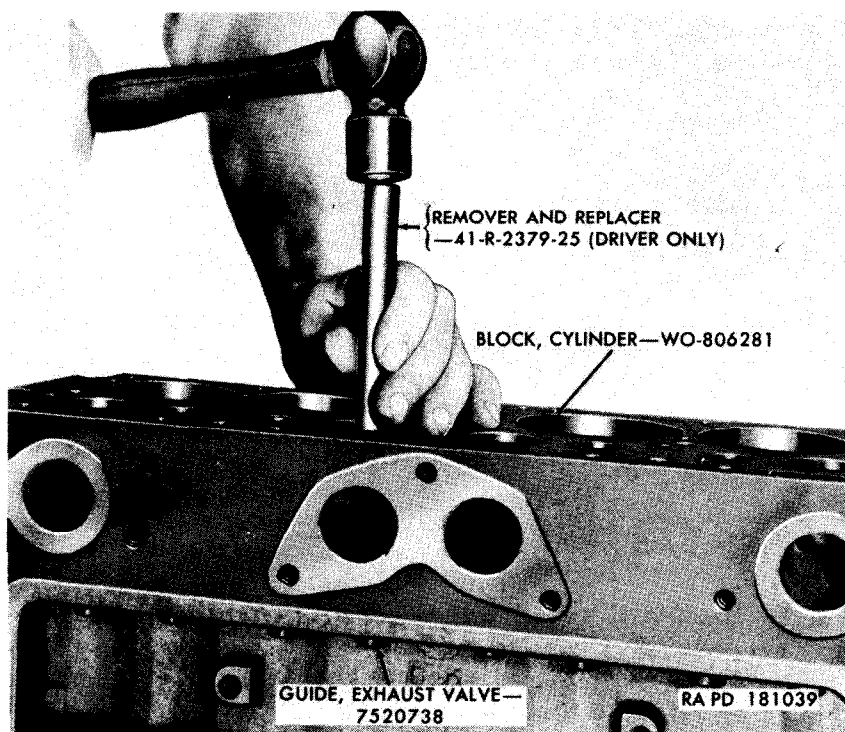

Figure 28. Removing exhaust valve guides using remover and replacer 41-R-2379-25.
- (4) If the cylinder bores are not worn beyond the dimensions given in the repair and rebuild standards, but the walls of the bores are glazed, use the finishing hone to remove the glaze.
- (5) Remove the exhaust valve guides using the driver only of valve guide remover and replacer 41-R-2379-25 (fig. 28) to drive the guides downward from the top of the cylinder block and into the exhaust valve spring compartment. Start the new valve guides, blunt (non-tapered) end first, into the valve guide bore in top of the cylinder block. Slide the